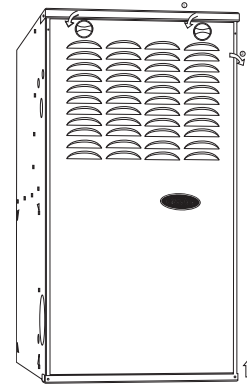

Fig. 7 – Remove Furnace Door
4. Remove the outer door by loosening the thumbscrew and pulling the door forward. See Fig. 7.
- Remove outer furnace door. (See Fig. 7.)